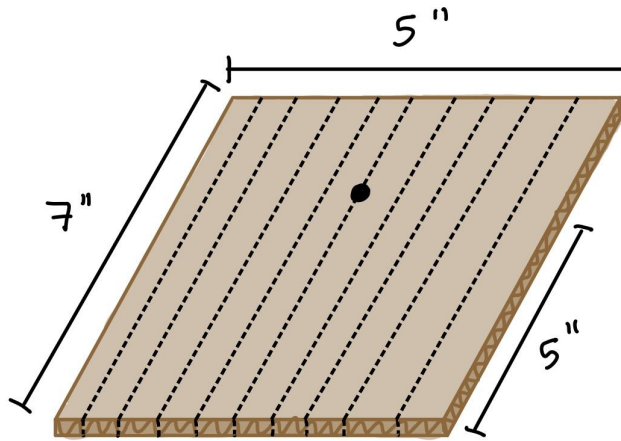

Figure 1. Scored 5" by 7" cardboard sheet with hole 5" from bottom of 7" side
2. Score two 5x7 in cardboard sheets by using scissors to indent (but not cut all the way through) cardboard along its longer side. Use the tip of the scissors to create hole in each sheet 5" from the bottom of the 7" side. See Figure 1 in Appendix C for drawing.